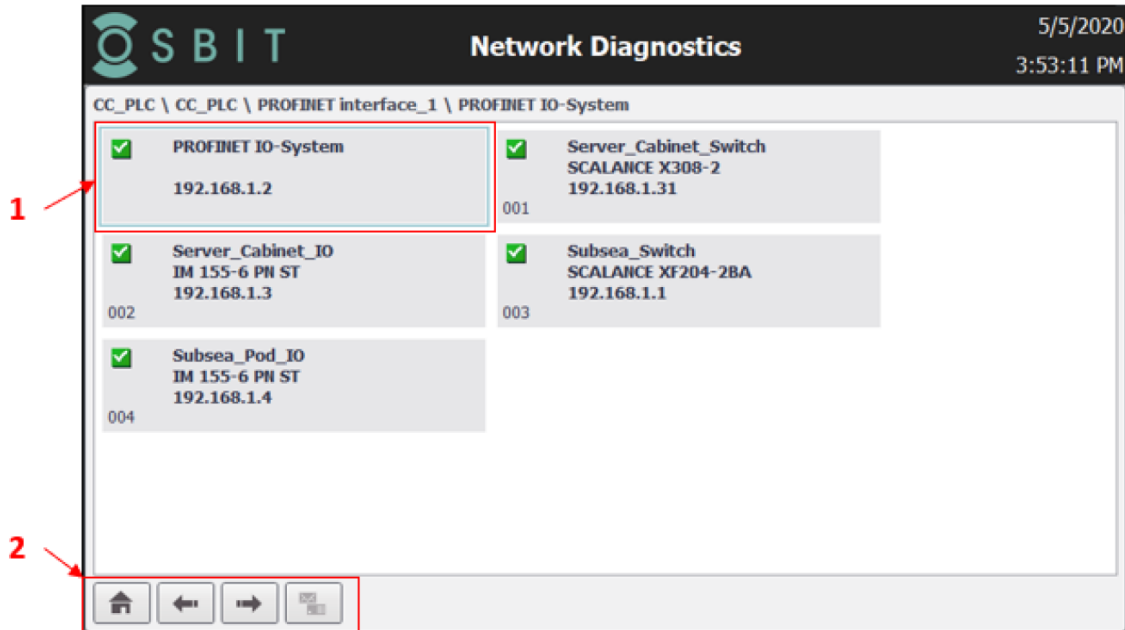

Figure 6 - Network Diagnostics Page - Plow Control System
- Network Diagnostics Page – See Figure 6